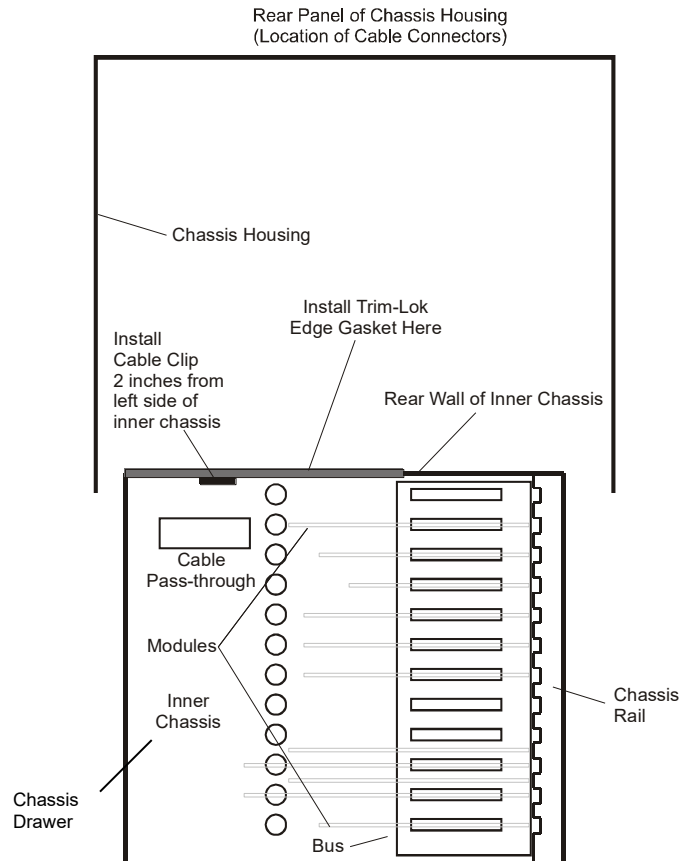

Figure 2: Overhead view of electronics chassis showing chassis drawer rolled completely forward, out from the chassis housing
- ☐ 10. Figure 2 below shows a top view of the electronics chassis drawer (with cover removed) and exterior chassis housing.
- ☐ 14. Install the section of Trim-Lok edge gasket on the vertical rear wall of the inside chassis, flush with the left side. See Figure 2 for the location of the edge gasket.
- ☐ 15. Install the cable clip below the Trim-Lok gasket and two inches from the side of the chassis, per Figure 2.
- ☐ 27. Attach the cable clip (PN 5060) to the back wall of the internal electronics chassis so that the top edge is flush with the bottom of the edge gasket, and the left edge is two inches (the width of the clip) from the left wall of the electronics chassis, and the clip is open at the bottom. See Figure 2 for the location of the cable clip.